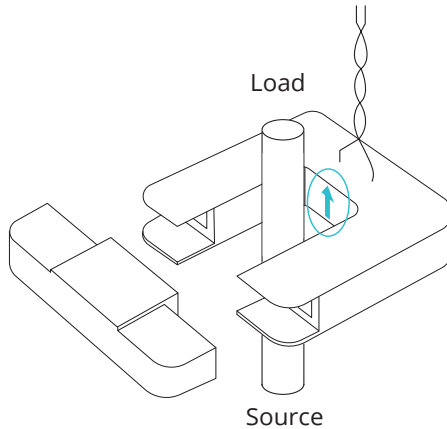

Figure 3 CT Orientation around Conductor
1. Place the CT around the primary phase conductor or cable. As depicted in Figure 3, ensure correct orientation by pointing the arrow towards the load.